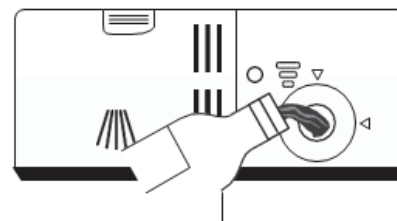

Figure 10: Filling the Rinse-aid reservoir.
Step 2 Carefully pour the dishwasher rinse-aid into the reservoir, whilst being careful to avoid it overflowing. Refer to Figure 10.